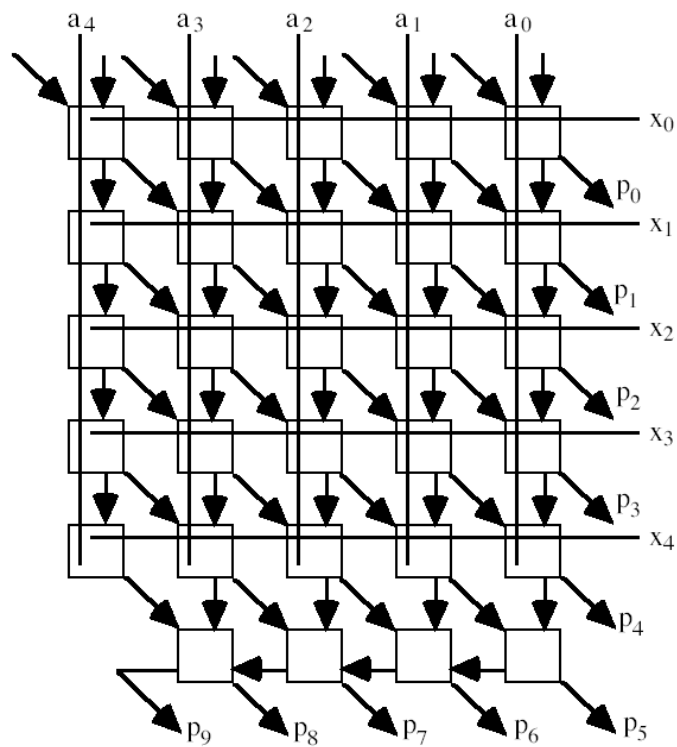

Fig. 1a. Combinational Array Multiplier (for $k=5$)
- B. combinational array multiplier, shown in Figs. 1a and 1b (diagram for $k=5$)